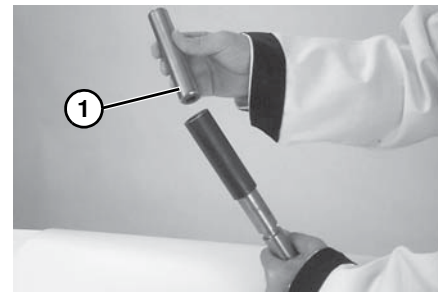

Figure 73
4. Place open end of pusher (**Figure 73, item 1**) into sleeve.